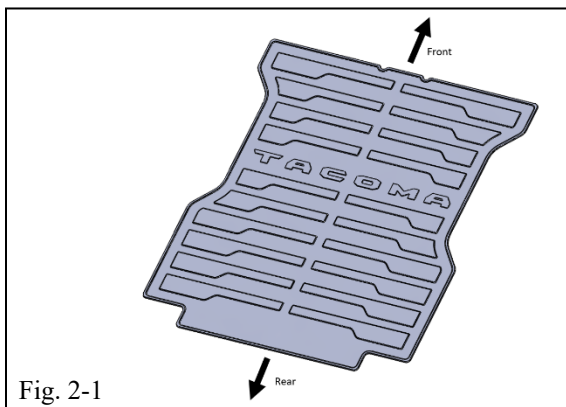

Fig. 2-1
- (a) Place Bed Mat in truck bed with logo towards the rear of the vehicle and facing up (Fig. 2-1).